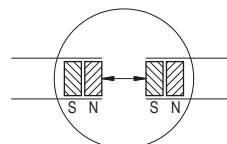

Fig. 12: Determination of the pole position. Joining the magnetic strip
- Check polarity before joining the two parts. Both ends must attract each other (if necessary, use compass needle). In case both ends have the same polarity, shorten one end by a half pole division (fig. 12).